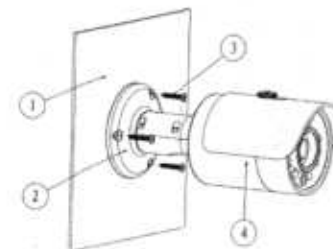

Figure 3-1
In Figure 3-1, ① Installation surface; ② Bracket; ③ Screws; ④ Camera.